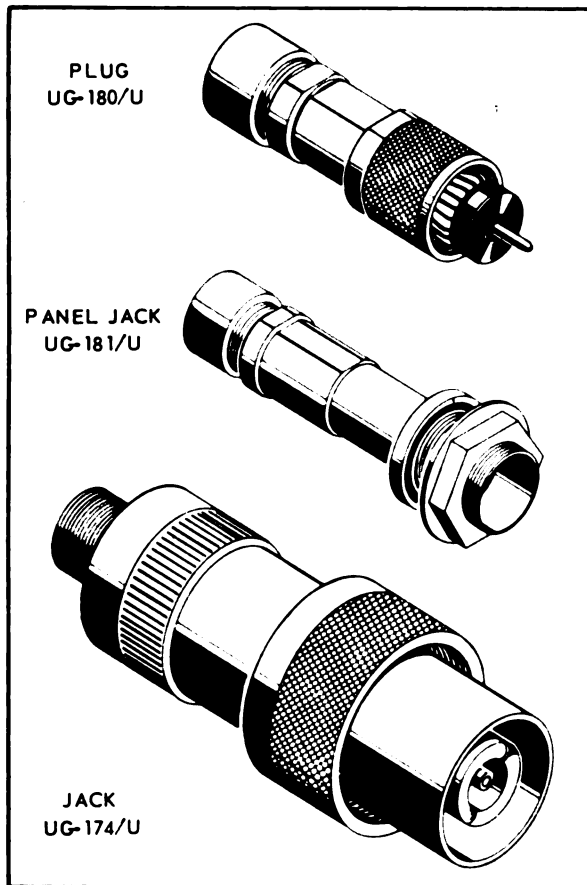

Figure 4-5. Typical Pulse Connectors
e. Pulse Series. See figure 4-5. A high-voltage connector for pulse or dc applications. Designed for use with rubber-dielectric pulse cables, but may be used with equivalent-size cables of other construction where high voltage is not required. With ceramic inserts peak voltage is 15000 v. at sea level. With rubber inserts peak voltage is 5000 v. at 50,000 feet, but higher voltages may be used at lower altitudes.